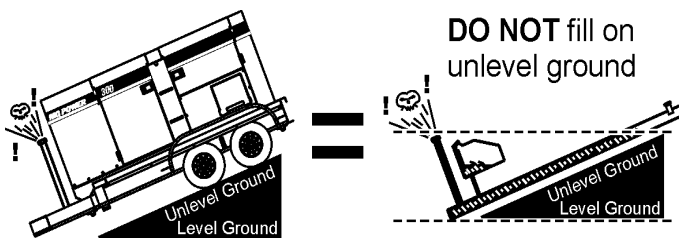

Figure 32. Only Fill on Level Ground
1. **Level Tanks** – make sure fuel cells are level with the ground. Failure to do so will cause fuel to spill from the tank before reaching full capacity. See Figure 32.